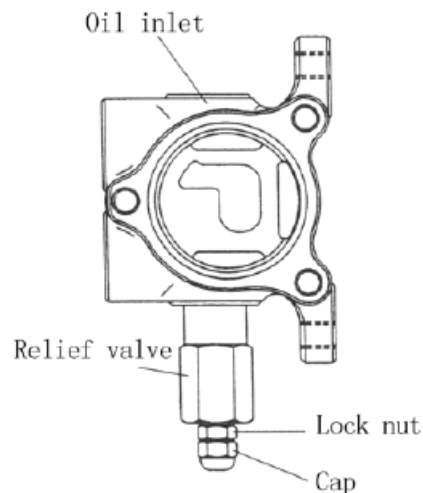

Fig. 5-15
(5) Setting pressure of the control valve (See Fig. 5-15)